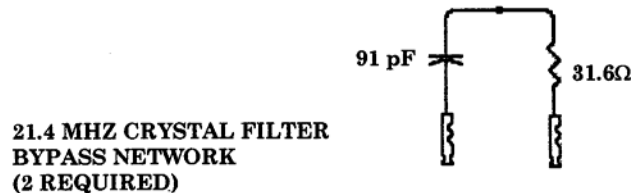
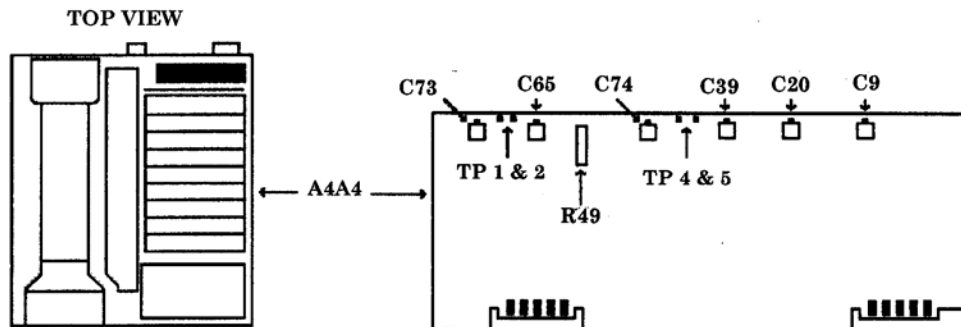
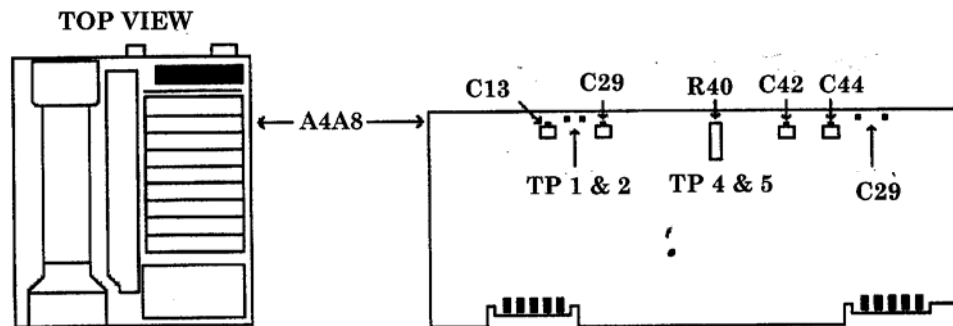

Figure 18. 21.4 MHz filter.
Figure 19. A4A4 test points.
Figure 20. A4A8 board.
The pictured filter (fig. 18) is required to continue with this adjustment routine.
(73) Press TI keys as listed in (a) through (e) below:
(74) Adjust TI **DATA** knob to position trace at (or just below) reference level (top) graticule line.
(75) Connect 21.4 MHZ CRYSTAL FILTER BYPASS NETWORK(S) (fig. 18) between A4A4TP1 and A4A4TP2 and between A4A4TP4 and A4A4TP5 (fig. 19).
(76) Adjust A4A4C20 (fig. 19) to center signal on center vertical graticule line.
(77) Adjust A4A4C9 (fig. 19) for best symmetry of signal.
(78) Remove 21.4 MHZ CRYSTAL FILTER BYPASS NETWORK(S) (fig. 18) from between A4A4TP4 and A4A4TP5 (fig. 19).
(79) Adjust A4A4C74 (fig. 19) to center signal on center vertical graticule line.
(80) Adjust A4A4C39 (fig. 19) for best symmetry of signal.
(81) Remove 21.4 MHZ CRYSTAL FILTER BYPASS NETWORK(S) (fig. 18) from between A4A4TP1 and A4A4TP2 (fig. 19).
(82) Adjust A4A4C73 (fig. 19) to center signal on center vertical graticule line.
(83) Adjust A4A4C65 (fig. 19) for best symmetry of signal.
(84) Press TI keys as listed in (a) through (c) below:
- (85) Adjust A4A4R49 (fig. 19) to align markers on TI display. **MKR Δ** level should indicate 1.00X.
- (97) Press TI keys as listed in (a) through (c) below:
- (98) Connect 21.4 MHz CRYSTAL FILTER BYPASS NETWORK(S) (fig. 18) between A4A8TP1 and A4A8TP2 (fig. 20).
- (99) Adjust A4A8C44 (fig. 20) to center signal on center vertical graticule line.
- (100) Adjust A4A8C42 (fig. 20) for best symmetry of signal.
- (101) Remove 21.4 MHZ CRYSTAL FILTER BYPASS NETWORK(S) (fig. 18) from between A4A8TP1 and A4A8TP2 (fig. 20).
- (102) Connect 21.4 MHZ CRYSTAL FILTER BYPASS NETWORK(S) (fig. 18) between A4A8TP4 and A4A8TP5 (fig. 20).
- (103) Adjust A4A8C29 (fig. 20) to center signal on center vertical graticule line.
- (104) Adjust A4A8C13 (fig. 20) for best symmetry of signal.
- (105) Remove 21.4 MHZ CRYSTAL FILTER BYPASS NETWORK(S) (fig. 18) from between A4A8TP4 and A4A8TP5 (fig. 20).
- (106) Press TI keys as listed in (a) through (c) below:
- (107) Adjust A4A8R40 (fig. 20) to align markers on display. **MKR LVL** should indicate 1.00X.
- (108) Press TI **2-22 GHz** key.
- (109) Set attenuators for 25 dB.
- (110) Press TI keys as listed in (a) through (h) below: